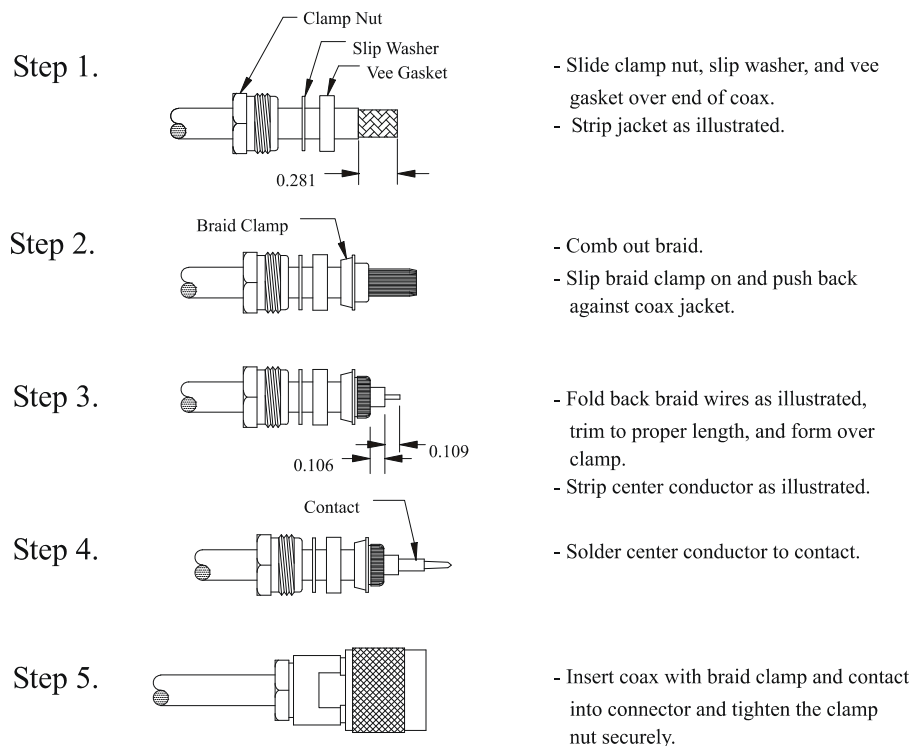

Figure 1-3 TNC Connector Installation
2. Trim the coaxial cable to the desired length and install the BNC or TNC (per Figure 1-3) connector. If, provided, follow the connector manufacturer's instructions for cable preparation.